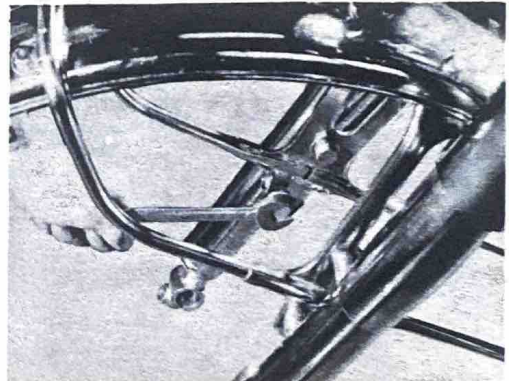

Fig. 5-6-1
- 1) Remove the front fender. (Fig. 5-6-1)